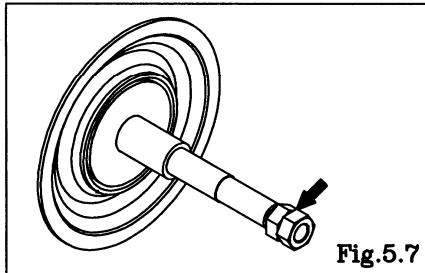

Fig.5.7
- Fix a double nut to one end of the center rod and take the diaphragm and center disk off the oppsite end. [Fig.5.7]